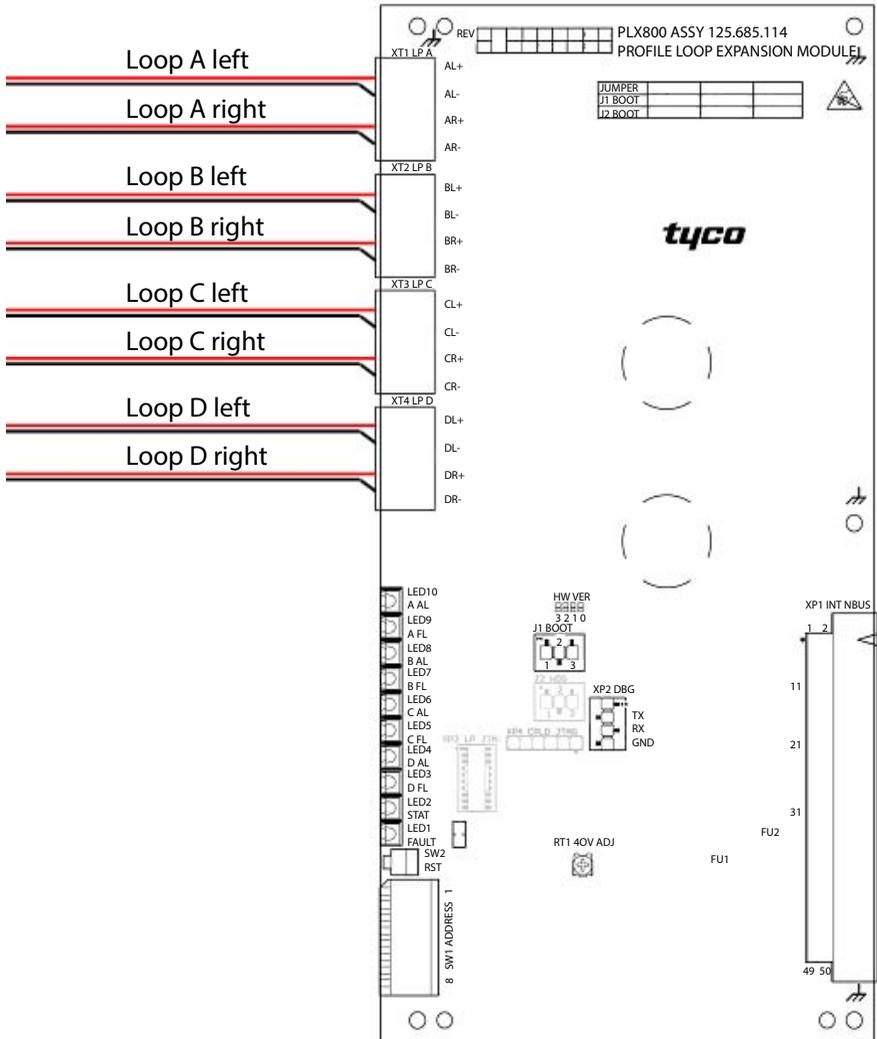

Fig. 3: Installation of loop cables to the PLX800
- 3 Connect the loop cables to the sub-loop connectors XT1, XT2, XT3, and XT4. Refer to Fig. 3.